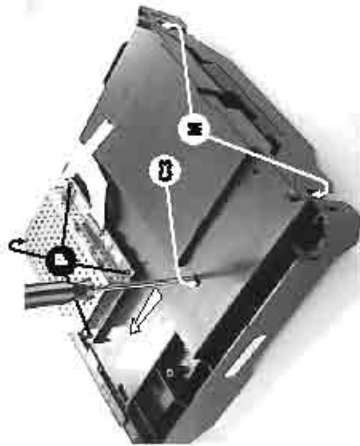

Figure 9
- 1) Loosen 4 screws P to remove the MPEG shield & MPEG Board as shown in figure 9.